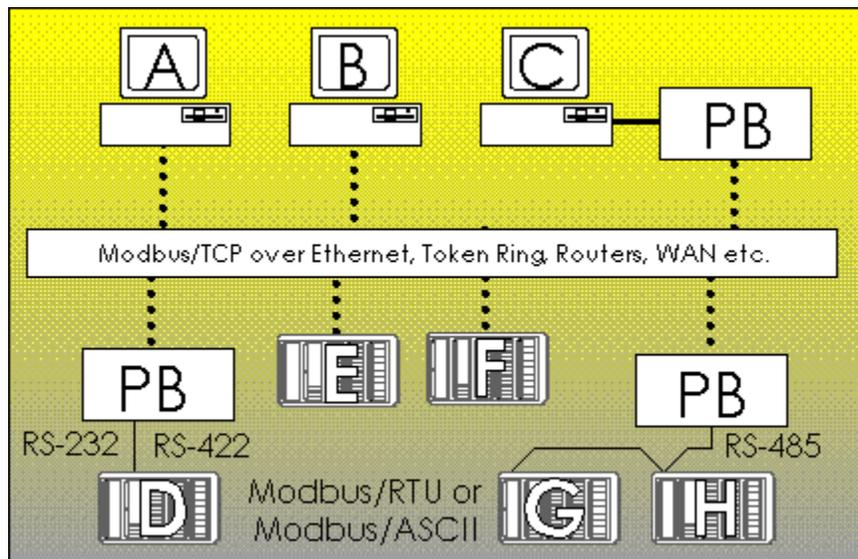

Figure 2) TCP/IP Integrated System
Figure 2 shows a simple multi-vendor system integrated with MODBUS/TCP. It also introduces the idea of a protocol bridge (PB) to integrate older RS-232 and RS-485 MODBUS/RTU and MODBUS/ASCII devices into a new TCP/IP network. These devices are already available from a number of companies - search the Web for "Modbus TCP" to find some of them. This example shows 3 work-stations from 2 different vendors and 5